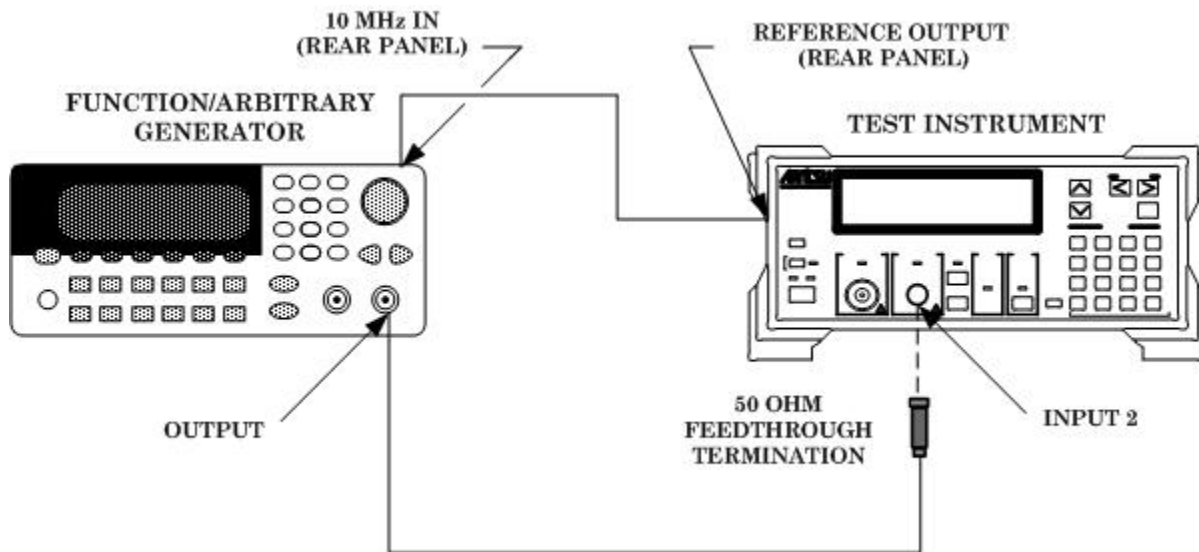

Figure 1. Input 2 sensitivity ( $1M \Omega$ ).
(1) Connect equipment as shown in figure 1.